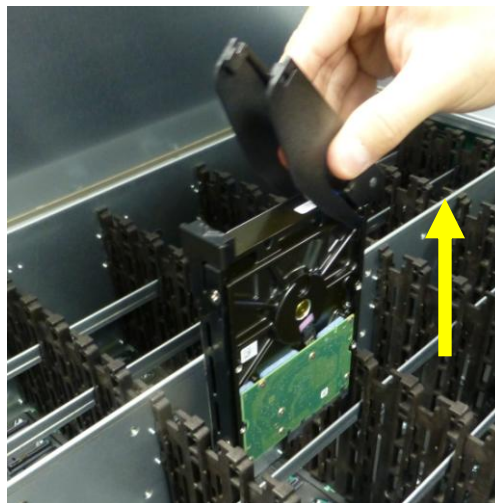

Figure 39. **Removing HDD Carrier from HDD Cage Slot**
3. Pull HDD carrier from cage slot (Figure 39).